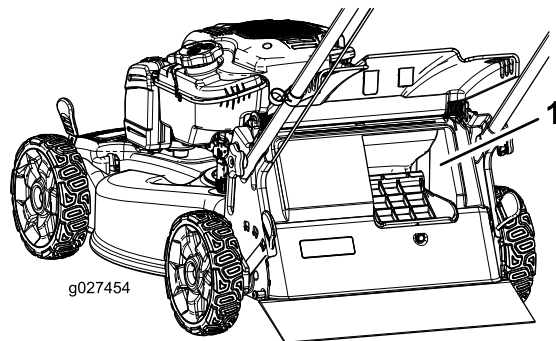

Figure 24
**Important:** For proper operation, shut off the engine, wait for all moving parts to stop, and then remove any grass clippings and debris from the bag-on-demand door and the surrounding opening (Figure 24) before you move the bag-on-demand lever from 1 position to another.